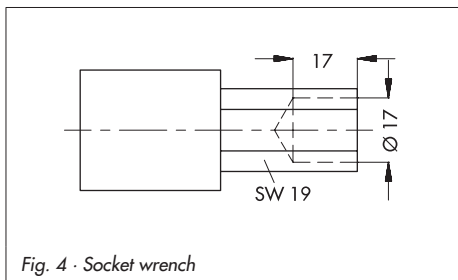

Fig. 4 · Socket wrench
3. Unscrew body screws (13) and remove actuator with intermediate ring (14).
5. **In sizes DN 15 to 25**, unscrew and pull out the guide nipple of the plug section (3) using a socket wrench (order no. 1280-3001). This wrench can also be made, for example, from a GEDORE screwdriver bit (IN 19-19) by drilling a 17 mm hole ( $\varnothing 17$ ) into the 19 mm hexagon bit as illustrated in Fig. 4.
- In sizes DN 32 to 50, unscrew stopper (3.1) and then pull out plug section (3).
6. Thoroughly clean the seat and plug section. Remove any dirt or blockages from the control line (11).